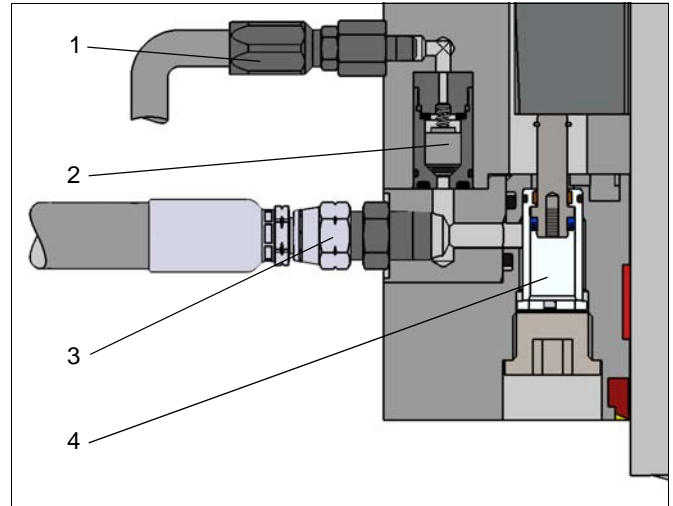

Fig. 4: Auto-bleeder integrated in safety catcher type K/TA
For safety catchers that have sufficient housing wall thickness, are installed in a fixed position (not moving) and are mounted vertically, the auto-bleeder can be integrated as shown in principle drawing *Fig. 4*.
A suitable pipe line provided by the customer has to be led from port E (1) *Fig. 4* of the auto-bleeder to the tank to drain the exhausted air-oil mixture. Additional information can be found in the manual delivered with the safety catcher.
⚠ In any case, a pipe or hose is necessary to lead the exhausted air-oil mixture from port E (1) *Fig. 4* to the tank.